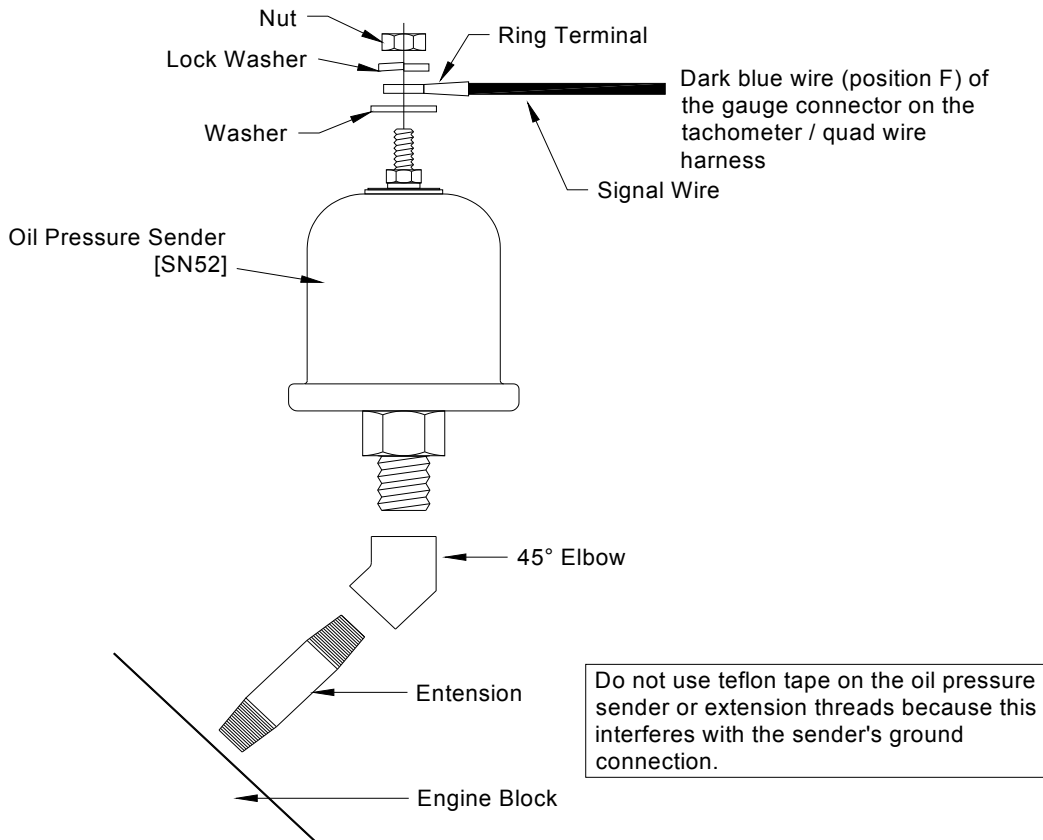

Figure 5: Oil Pressure Sender Wiring
- 7) Connect the **dark blue** wire (position F) of the gauge connector on the tachometer / quad wire harness to the supplied Classic Instruments oil pressure sender. (see figure 5)